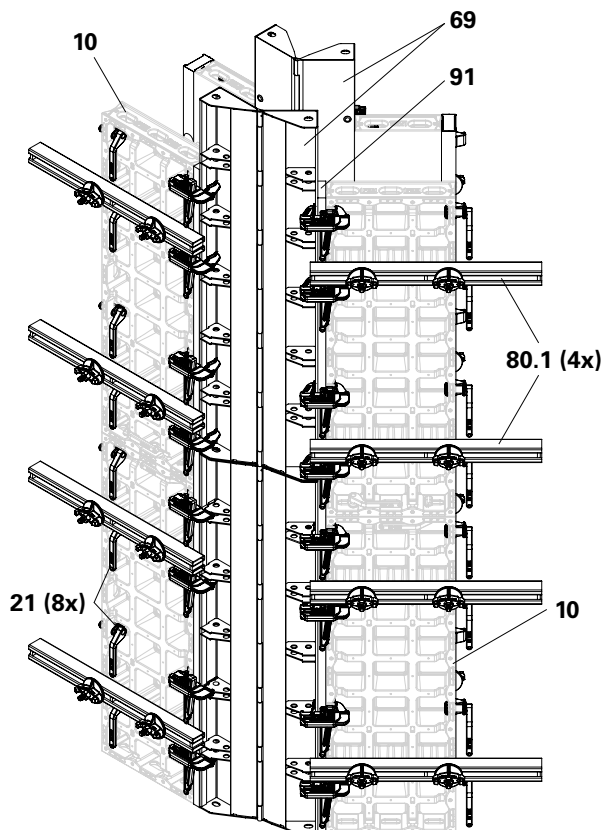

Fig. B1.25
Four DUO couplers (21) must be installed for each DUO DP 135 panel along the vertical joint. LWR walers are installed to cover the joint between the LIWA articulated corner (69) and the DUO panels (10). (Fig. B1.25)